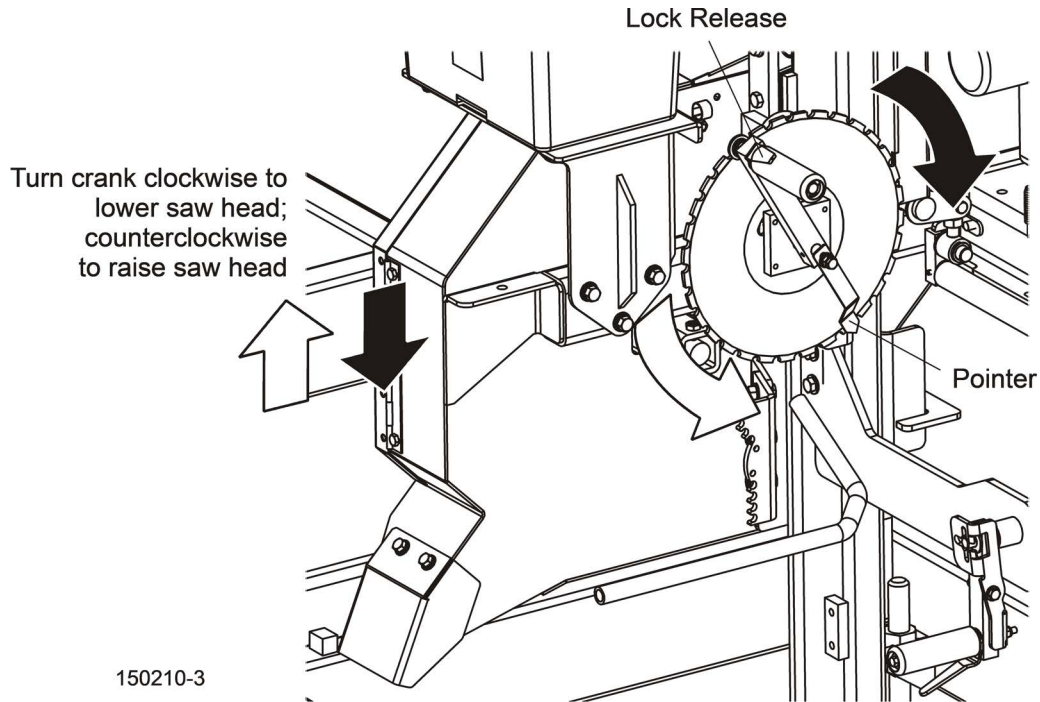

FIG. 5-4
- Use the pointer and the round up/down blade height scale for quick reference when cutting. See FIG. 5-4.